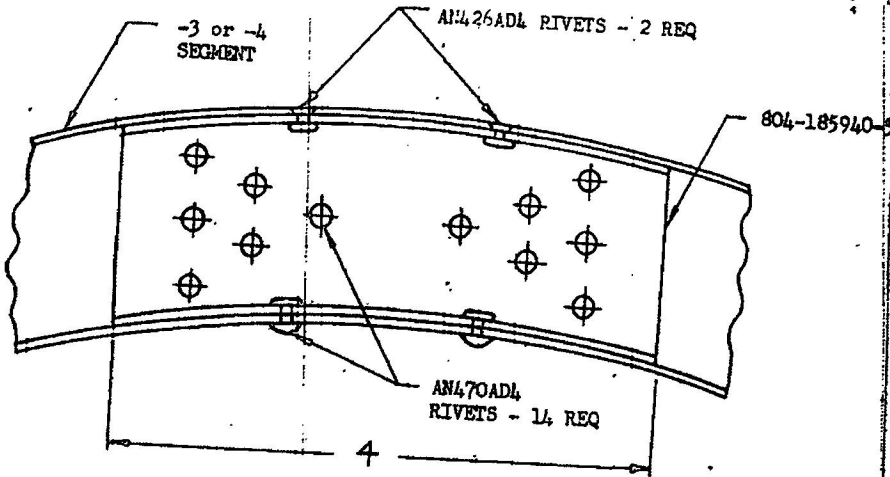

FIGURE 2
- (b) Former rings that have cracks or broken out portions in any part of the -3 or -4 segments that has a cross-section measuring approximately 1-1/2 by 5/8 will be repaired as shown in Figure 2 of this specification.